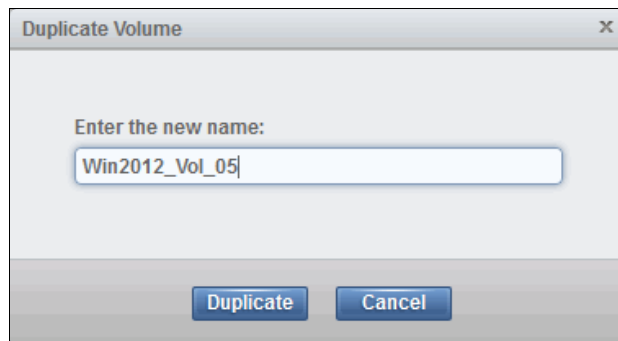

Figure 8-76 Create a duplicate volume
2. Enter a name for the duplicate volume and click **Duplicate** to apply the change, as shown in Figure 8-76.